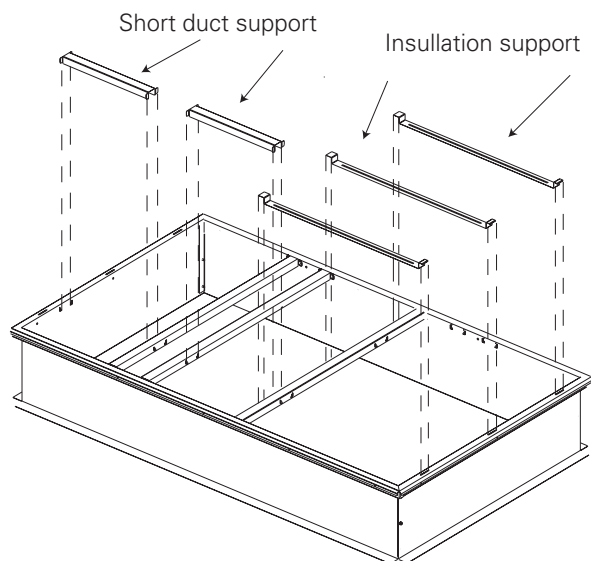

Figure 10. Step three
5. At 10.25" from the side, locate the position for the short duct support that fits between the first long duct support and the end. Insert the support flanges into the appropriate corner catches. Verify the 10.27" dimension. See Figure 10, p. 8.
6. Insert the second short duct support between the middle and left long duct supports. Verify the 10.27" dimension from the duct support to the side (in line with previously assembled short duct support). See Figure 10, p. 8.